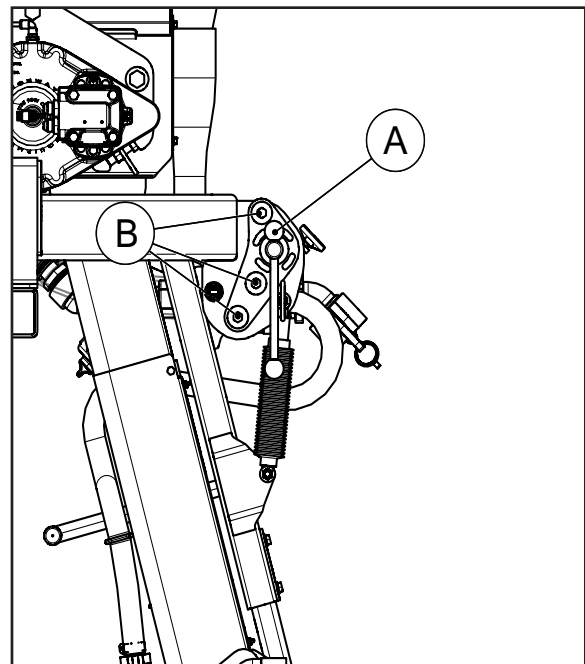

Figure 3
- a. Figure 3 - Verify that clamp is tight (A).
- b. Loosen spinner clamp hardware (B) two turns each.